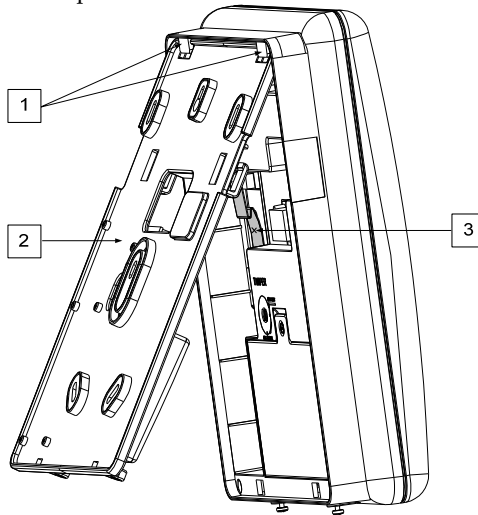

Figure 3: Mounting Bracket removal
- b. Gently, pull up the Mounting bracket to a 45° angle and slide it down to release the Mounting bracket (2, Figure 3) from the two locking tabs (1, Figure 3) at the top of the unit.
4. According to the location of the wall cables, route and insert the wires and cables via the cable's openings (3) (including AC cable and telephone cable), see figure 3.
5. If required, remove cable knockouts (5) to allow wire passage.
6. Anchor cables with dedicated hooks (4).
2. According to the location of the network cable, route and insert the cable via the cable's openings (see figure 3).
3. If required, remove cable knockouts (5, Figure 3) to allow cable passage.